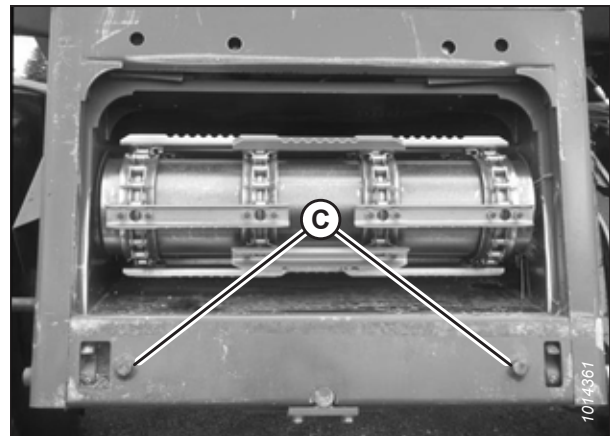

Figure 5.13: AGCO Group Alignment Pins
4. Slowly approach the header until the feeder house is directly under float module top cross member (A). Ensure that alignment pins (C) (refer to Figure 5.13, page 58) on the feeder house are aligned with holes (B) in the float module frame.